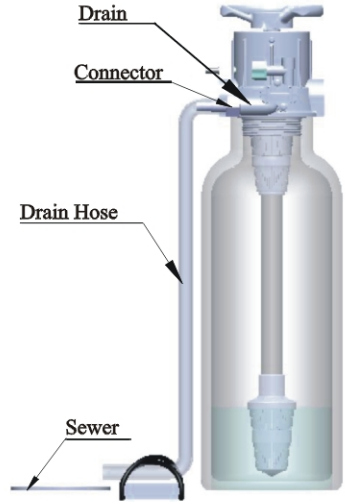

Figure1-3
- Be sure not connect drain with sewer, and leave a certain space between them, avoid wastewater be absorbed to the water treatment equipment, such as showed in the Figure1-3.